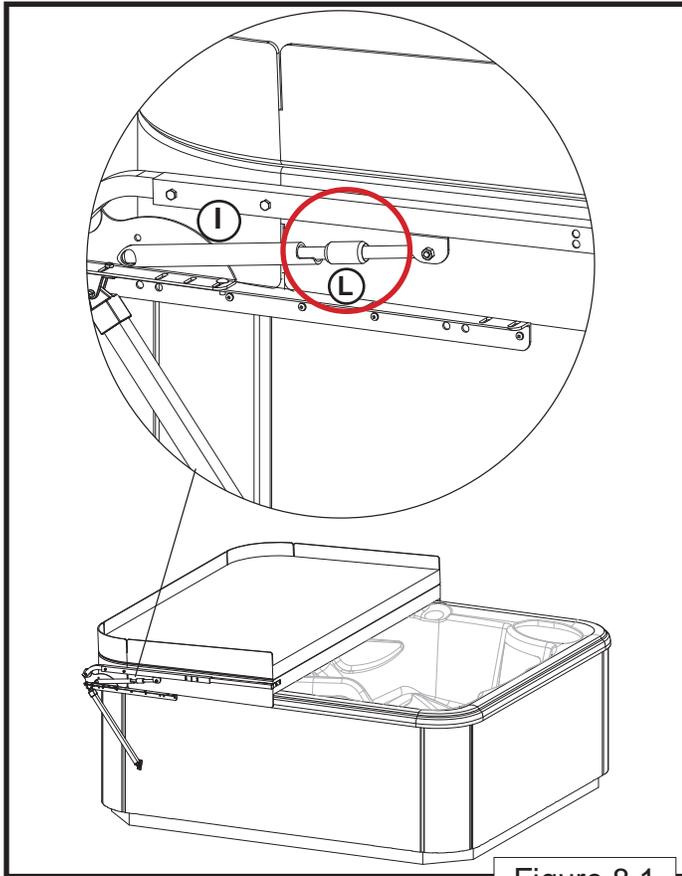

Figure 8.1
The Sure lock Sleeve (L) slides along the top of the Gas Spring (F) when it is in free-sliding position (Figure 8.1)